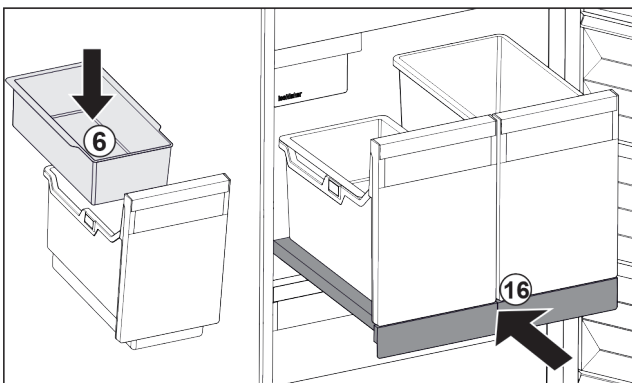

Fig. 39
- ▶ Insert hang-on tray Fig. 39 (6) for ice cubes.
- ▶ Slide in the pull-out board with (IceTower) container. Fig. 39 (16)